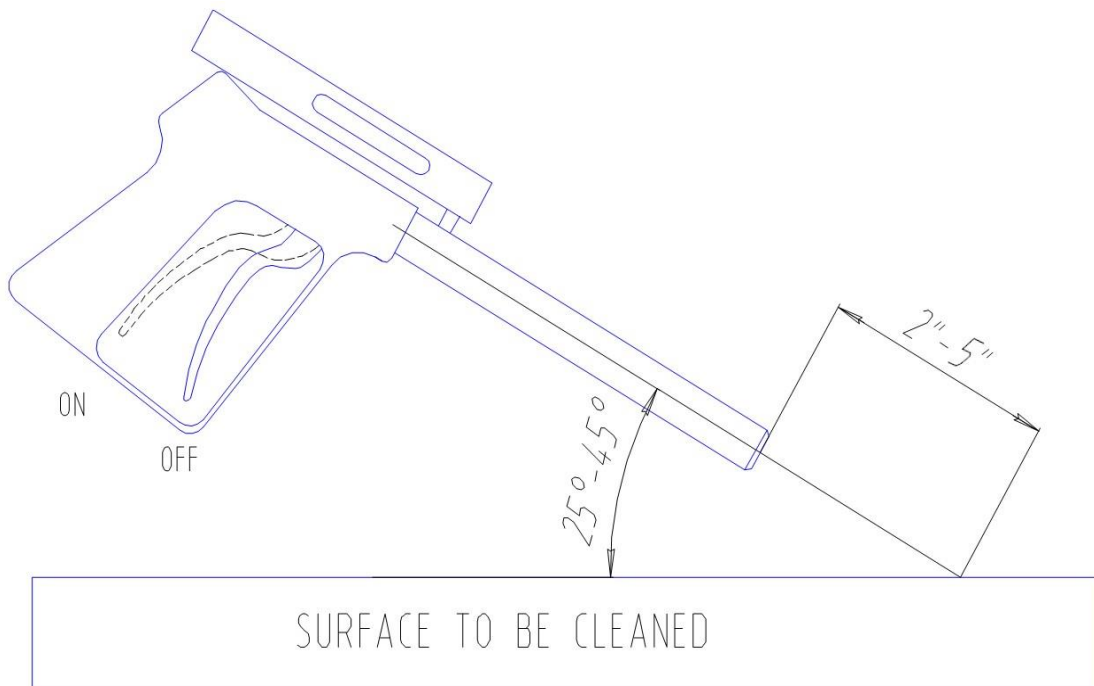

Figure 5.3 – Gun Position for Best Results
- 6) The gun trigger should be in open or “ON” position (See Figure 5.3) when throttling up the engine to engage the pressure pump. This will prevent the pressure pump from being in a loaded condition which will cause the clutch and belt to slip while they are engaging the pressure pump.
- 8) Activate the cleaning cavitation stream by squeezing the trigger to the open or “ON” position (See Figure 5.3). Release trigger to stop the water flow and direct to bypass.
in to the idle position (See Figure 5.1) and then release the water pressure in the hose(s) by squeezing the gun trigger to the open or “ON” position (See Figure 5.3) **while under water**. Revert back to step 3 of the operating instructions when the diver or replacement is ready to continue cleaning.
- Pull the gun trigger to the open or “ON” position (See Figure 5.3). - Throttle the engine to full speed (See Section 5.3).
When the diver is ready to commence cleaning operations, ensure that the gun trigger is in the open or “ON” position (See Figure 5.3), the gun is submerged in the water and the feed pump is operating prior to throttling up the engine. Ensure that the power unit operator and other people working in the vicinity of the power unit wear appropriate hearing protection when the engine is running.
2. **The most efficient operating technique is to hold the nozzle 2-5 inches (5-12 cm) away from the surface to be cleaned and at a 25 to 45 degree angle to the surface being cleaned (See Figure 5.3).** The diver needs to observe the shape of the cavitating jet cone. At greater depths, the higher ambient pressure will cause the jet cone to be shorter. The widest zone of the cone is the most efficient part of the cavitating jet. Placing the nozzle closer than 2 inches (5 cm) from the surface being cleaned will not allow for efficient cavitation performance and will degrade the cleaning capability of the CaviBlaster® system.
5. **Squeeze the gun trigger to the open or "ON" position (See Figure 5.3) to release the water pressure remaining in the hose(s) while the gun is submerged.**